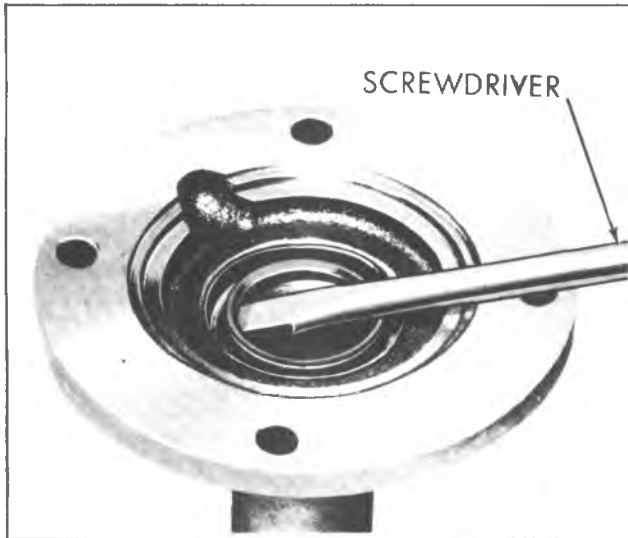

Fig. 7B-14J—Removing Bearing Retainer Oil Seal
4. Install synchronizer hub to mainshaft snap ring (Fig. 7B-7J). Both synchronizer snap rings are identical. Turn the rear of the mainshaft upward. Install the following components on the mainshaft: